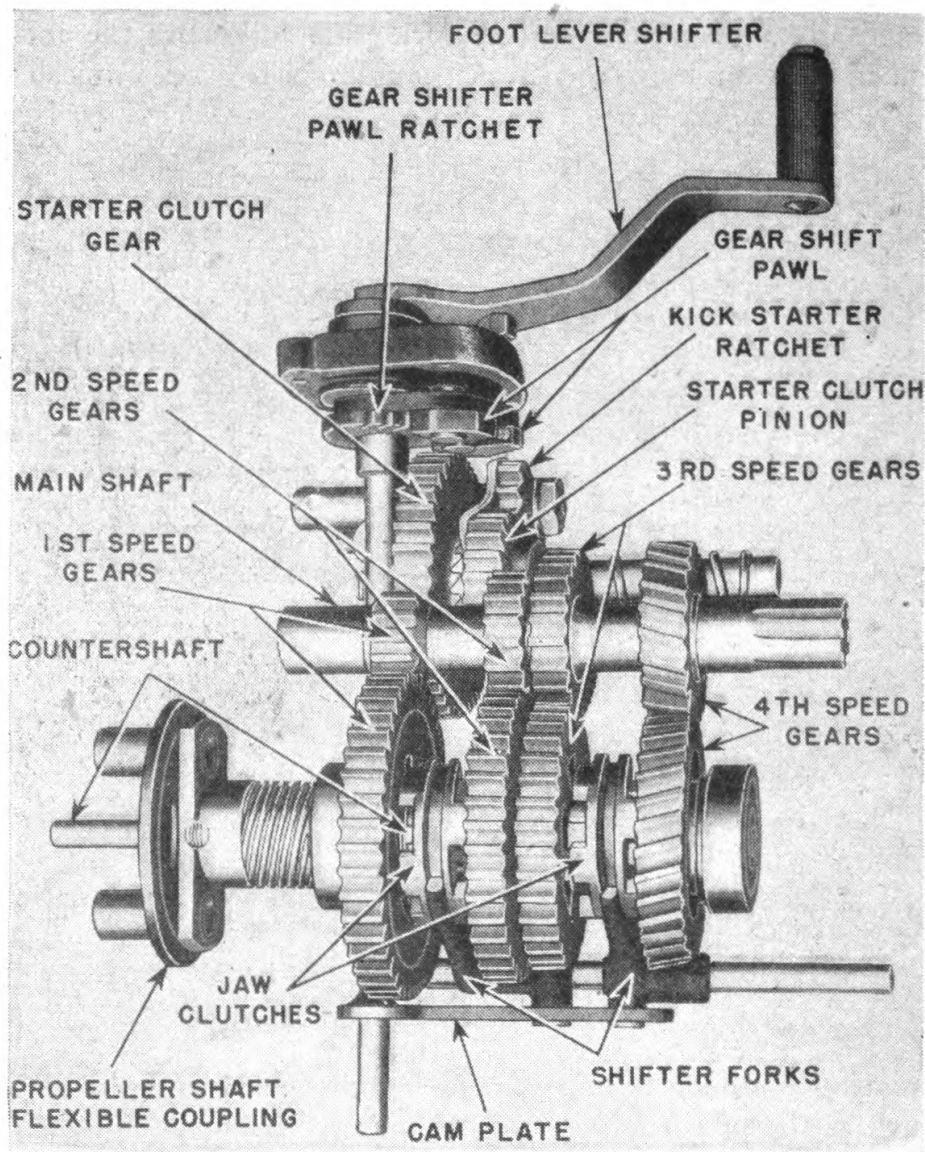

FIGURE 52.—Transmission of shaft-driven Harley-Davidson.
*c.* The Harley-Davidson constant mesh transmission is illustrated in figure 52. A cam plate moves the shifter fork which in turn moves the jaw clutches splined to the countershaft. The driven gears have mating jaw clutch hubs so that, when the clutches are engaged, power is transmitted from the main-shaft gears to the countershaft gears and to the countershaft. There is no direct drive in this transmission